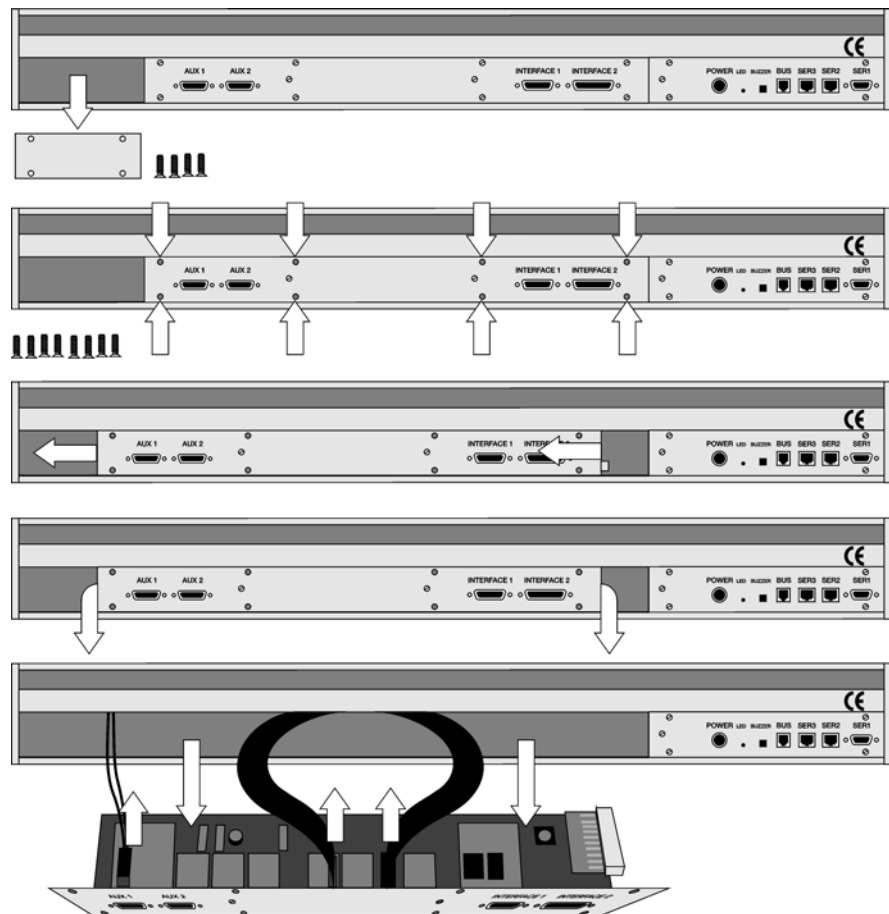

Figure 31 Replacing MOTIO Board
- 1 Follow the sequence shown in Figure 31 to detach and release the MOTIO board from its position inside the X Crossrail.